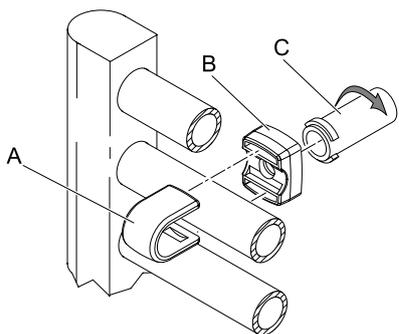

Fig. 4
3. Carefully assemble the four mounting collars (A) and rail seats (B) to the towel rail and secure in the positions by inserting and turning the inner bracket sleeve (C) through 90 degrees as shown in Fig. 4. The brackets should be placed on the bottom and second from top rails and separated by a distance of 360mm. Ensure the inner bracket sleeves are facing directly backwards.